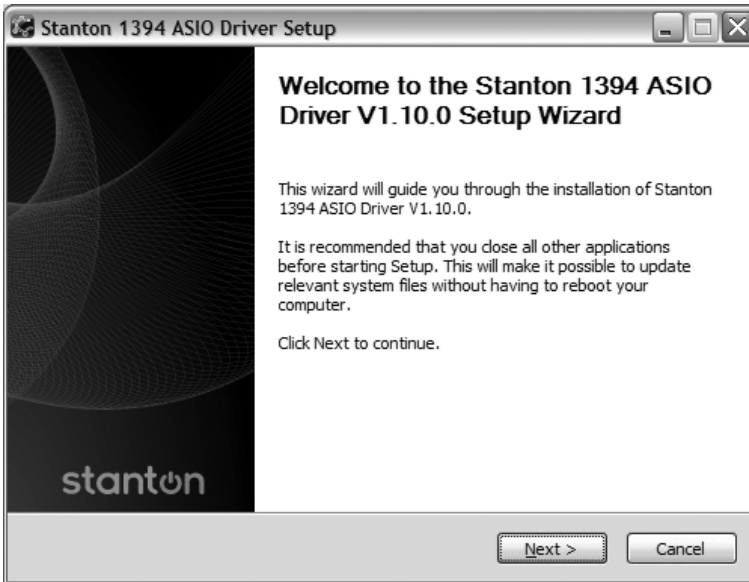

Figure 4.5
5. The installation of the ASIO driver will begin. Make sure that your SCS.1 controller(s) are properly connected but do *not* turn them ON yet. When you are ready, click **Next**. (Figure 4.5)